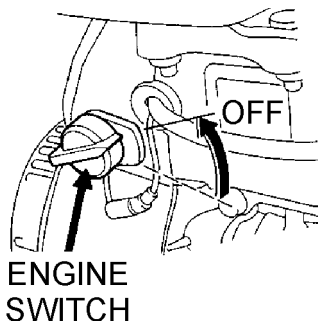

Figure 39. Engine ON/OFF Switch (OFF Position)
2. After the engine cools, turn the engine start/stop switch to the "OFF" position (Figure 39).